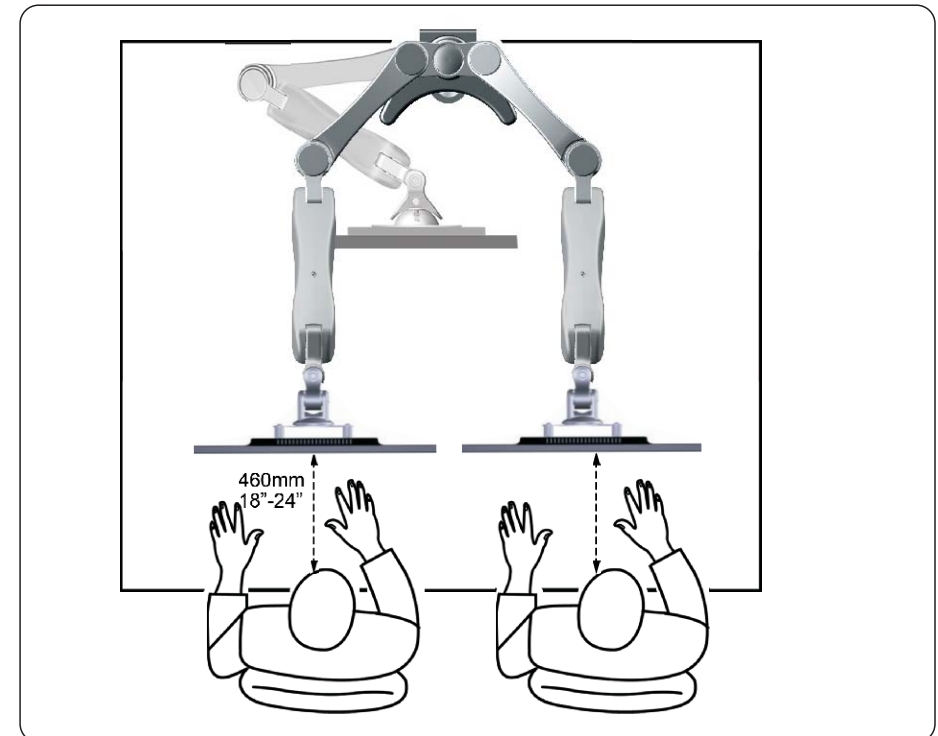

Figure 6-1
1.Ensure the correct focal distance for ultimate visual comfort. For visual comfort, a viewing distance between 460mm (18") to 610mm (24") is recommended. (See Figure6-1)